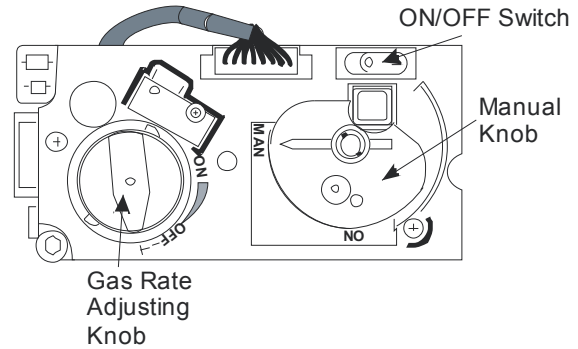

Figure 14
2. Turn the Manual knob clockwise to **MAN** position (see **Figure 14**).